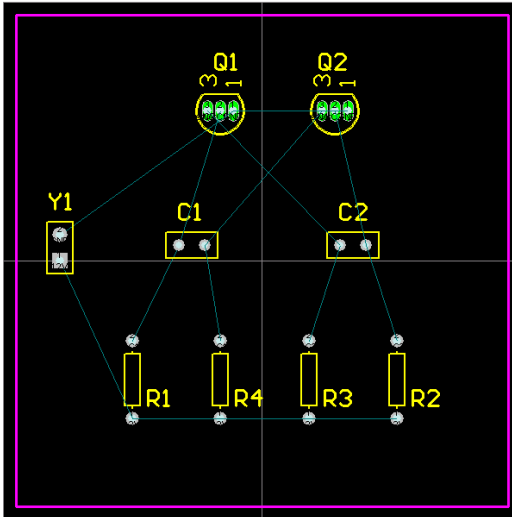

Figure 6. Components placed on the PCB with new footprints.
3. Your board should now look like the PCB design in Figure 6 below.